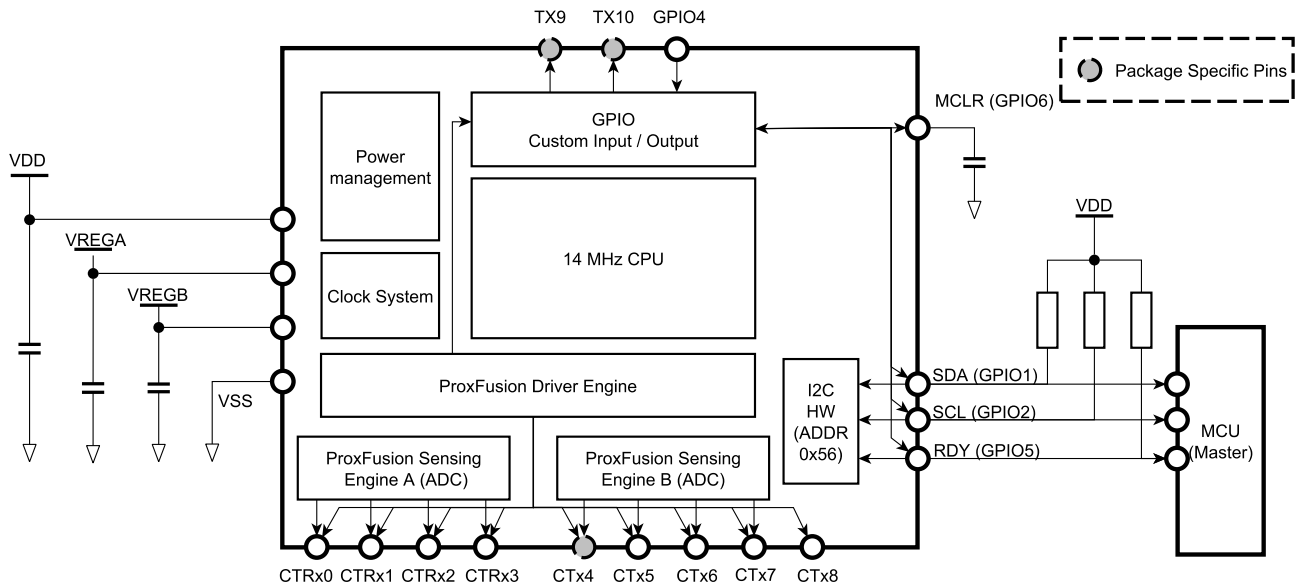

Figure 1.1: Functional Block Diagramⁱ
- Each channel can pair multiple sensor connections. (see Figure 1.1).